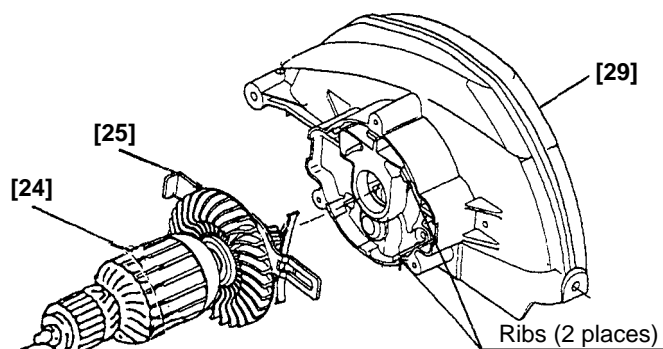

Fig. 10
(4) Assembling the Lock Lever [25] (See Fig. 10.)